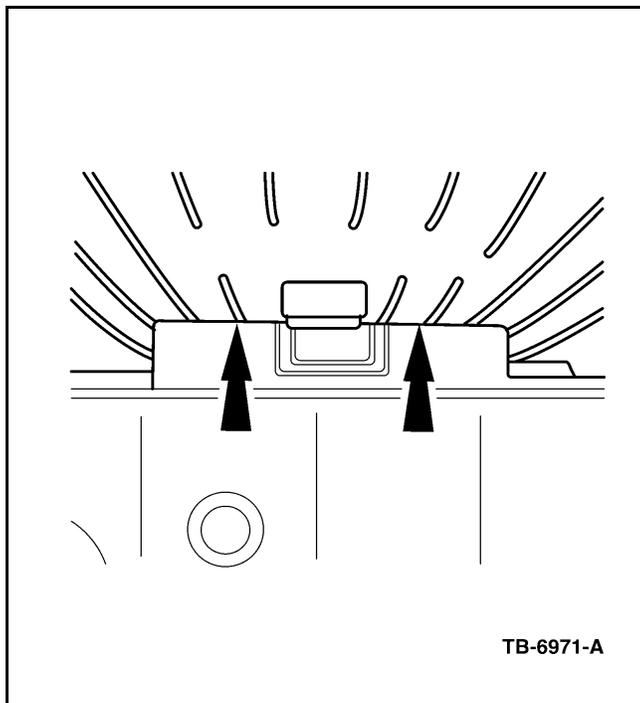

Figure 7 - Article 03-1-9
1. Use the guide on the filter to align its legs to the grommet during its installation as shown in Figure 7, making sure filter is fully seated on the cradle.